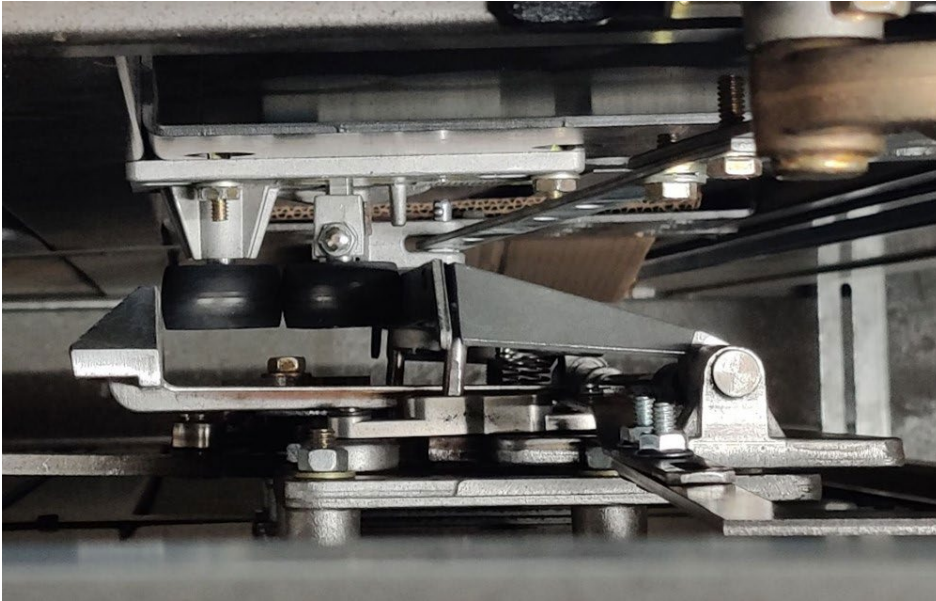

Figure 37: Doors Closed with Clutch Collapsed Around Roller Release
2. When the doors are closed the clutch will still be collapsed around the roller release, as shown in **Figure 37**.